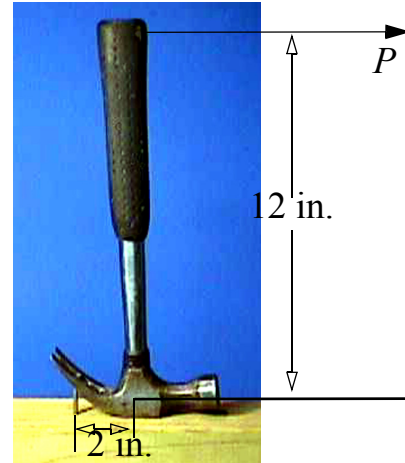

**Fig. C1.5**
**C1.5** An adhesively bonded joint in wood is fabricated as shown in Fig. C1.5. The joint is to support a force  $P = 25$  kips, what should be the length  $L$  of the bonded region if the adhesive strength in shear is 300 psi.